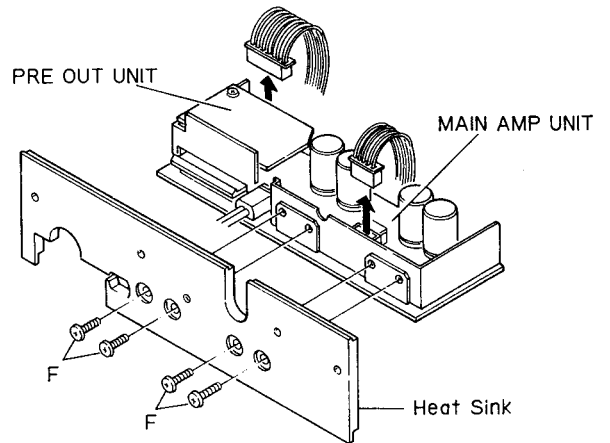

Fig. 4
3. Disconnect the two connectors. (Fig. 4)